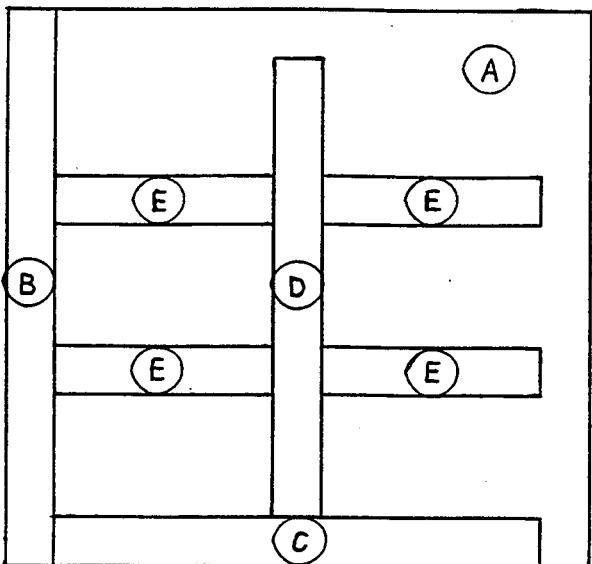

Figure 5.
Step 7: Following the procedures outlined in Steps 4 & 5, progressively position the other two **strips E** into their proper places according to Figure 5.